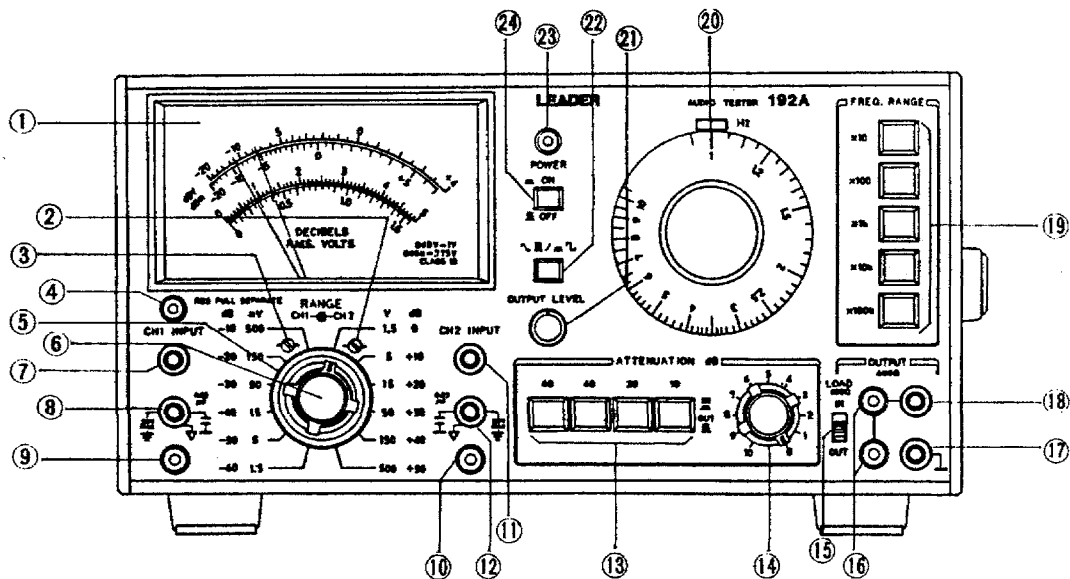
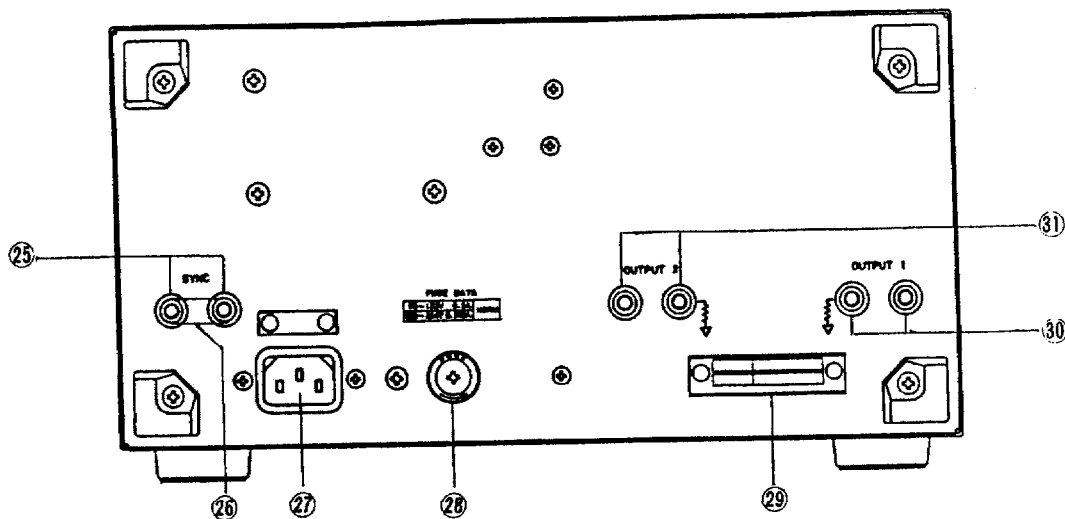

Fig. 3-1 Front panel controls and connectors.
Fig. 3-2 Rear panel controls.
3.1 AC Millivoltmeter Section, see Fig.3-1.
- ① Meter: With scales calibrated for Volts (rms) and decibels.
- ⑦⑪ INPUT terminal(red): For the high potential side. ⑦ CH 1, ⑪ CH 2.
- ⑧⑫ INPUT terminal (black): For the low potential side; this is "floated" from the chassis with a 0.22 μ F capacitor, ⑧ CH 1, ⑫ CH 2.
- ⑨ Input jack for CH 1 signal of stereo input. This jack is connected to the input terminals internally.
- ⑩ Input jack for CH 2 signal of stereo input. This jack is connected to the input terminals internally.
3.2 AF Signal Generator Section, see Fig.3-1.
- ⑬ ATTENUATION dB switches: For attenuating the AF output signal; range is 0 to 110dB.
- ⑭ Attenuator switch: Adjusts the AF output signal in 1dB steps.
- ⑮ OUTPUT IMPEDANCE switch: Selects the output load impedance; 600 Ω .
- ⑯ OUTPUT jacks: For use with the pin plug lead.
- ⑰ Ground terminal (chassis connection).
- ⑱ OUTPUT terminal: For the AF output signal (connected in parallel with pin jack ⑰).
- ⑲ FREQ. RANGE switches: Five pushbuttons for selecting the range of the output frequency.
- ⑳ Frequency dial, Hz: Calibrated from 1 to 10Hz; actual output frequency depends on the range setting.
- ②① OUTPUT LEVEL control: For continuous adjustment of output.
- ②② Switch for output waveform selection, sine or square, as marked.
- ②③ Pilot lamp: Indicates when the AC power is on.
- ②④ POWER switch: Push on the AC power.
3.3 Rear Connections, see Fig.3-2.
- ②⑤ SYNC terminals: For connection to an external frequency control source; black terminal is for ground.
- ②⑥ Shorting-link: Normally connected across the SYNC terminals when the synchronizing input signal is not used.
- ②⑦ AC inlet.
- ②⑧ Fuseholder for the AC line.
- ②⑨ Serial number plate.
- ③① Amplifier output terminal (③① for CH 1, ③① for CH 2).
Check the 0 pointer setting on the meter. If not zeroed at the left end of the scale, adjust the zero-set screws on the panel below the meter. (See Fig. 3-1)